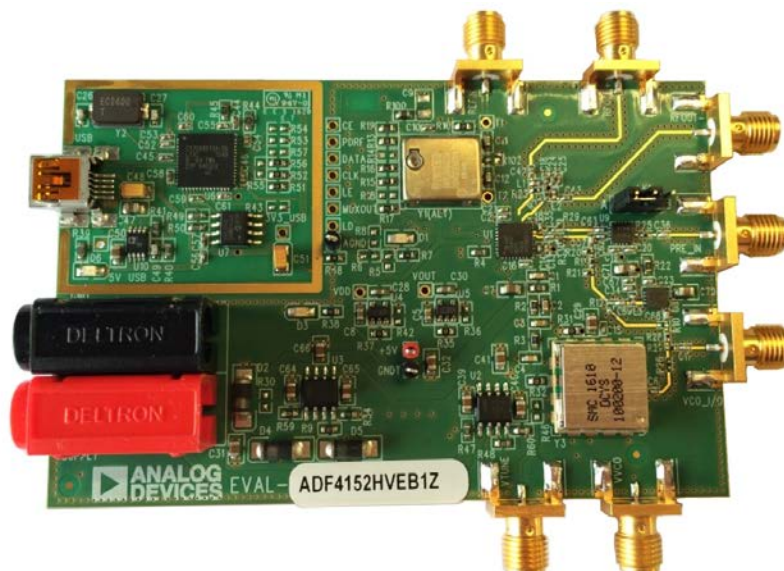

Figure 1. EVAL-ADF4152HVEB1Z
This board is designed to allow the user to evaluate the performance of the **ADF4152HV** frequency synthesizer for phase-locked loops (PLLs). Figure 1 shows the board, which contains the **ADF4152HV** synthesizer, loop filter, voltage controlled oscillator (VCO) of 1 GHz to 2 GHz octave range and up to 28 V high tuning voltage, reference temperature controlled crystal oscillator (TCXO) of 25 MHz frequency for the reference input, power supply connectors, and a radio frequency (RF) output. The **ADF5001** prescaler allows optional direct connection of external microwave VCOs without the need for an active loop filter.